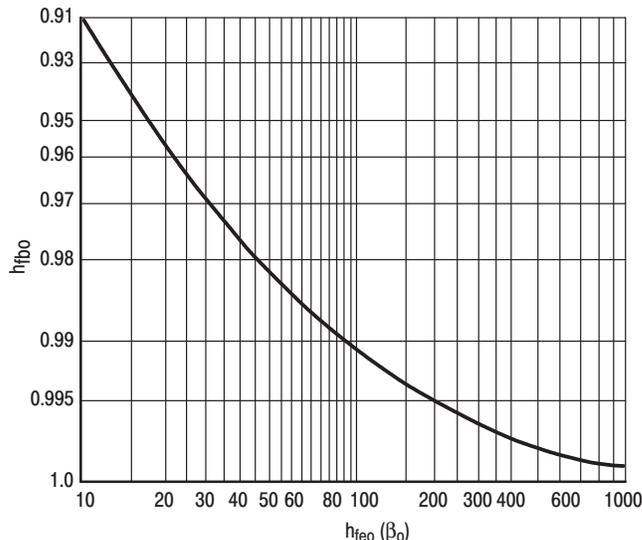

Figure 3. The Relationship Between h_{feo} and h_{fbo} is given by the Graph Shown
Equations 1 and 2 are plotted in Figure 3. To further facilitate computations, the low frequency current gain scales of Figures 7–8 contain both an h_{fbo} and an h_{feo} scale, and may be entered with a knowledge of either quantity.
- Rule 4: (A) If h_{fb0} not h_{fe0} is known, use Figure 3 to find h_{fe0} .
To find h_{feo} when h_{fbo} is known or vice versa, enter Figure 3 with the known value and read the unknown directly. Given: $h_{fbo} = 0.96$. Find: h_{feo} . Answer = 24.